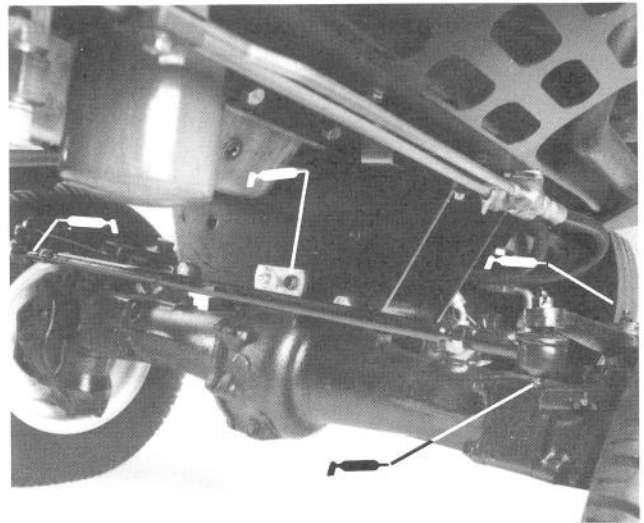

Figure 29
4 wheel drive machines only – tie rod assembly (2), center pivot (1), axle knuckles (2) (Fig. 29); cylinder ends (2) (Fig. 30).